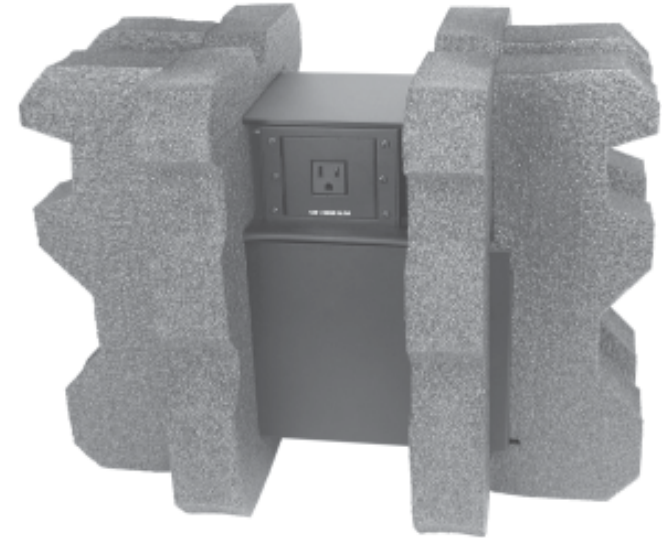

Figure B-5 — HSA suspended in the foam
8. Insert the opposite end of the HSA 822 and the clamshell into the remaining foam shell (figure B-5). Firmly push the foam shells together as far as they will go to completely suspend the HSA and clamshell. The sides of the clamshell protrude through slots in the foam.